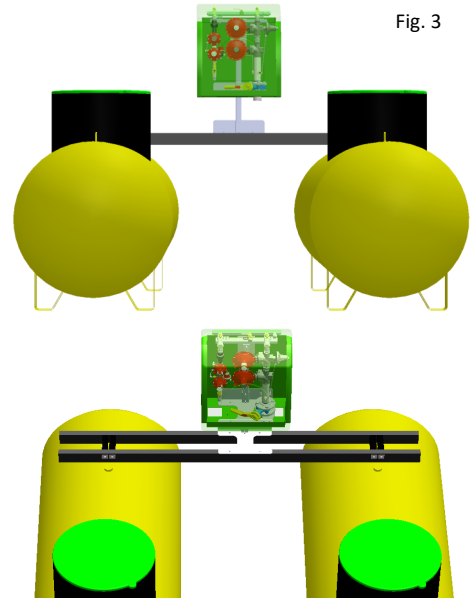

Fig. 3
6. Make sure that bottom of the kiosk is at the same height as the top of the tank turrets Fig 3. If necessary adjust the height.